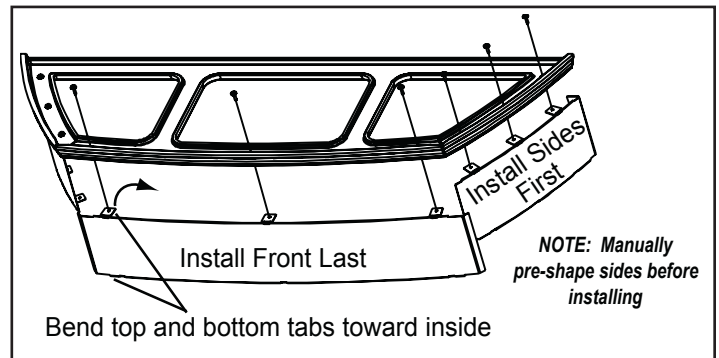

Figure 21.3
4. Lay 1 cast ring face up, which will become the bottom ring when installed. Attach the 2 sides FIRST and then the front piece. **Figure 21.3.**